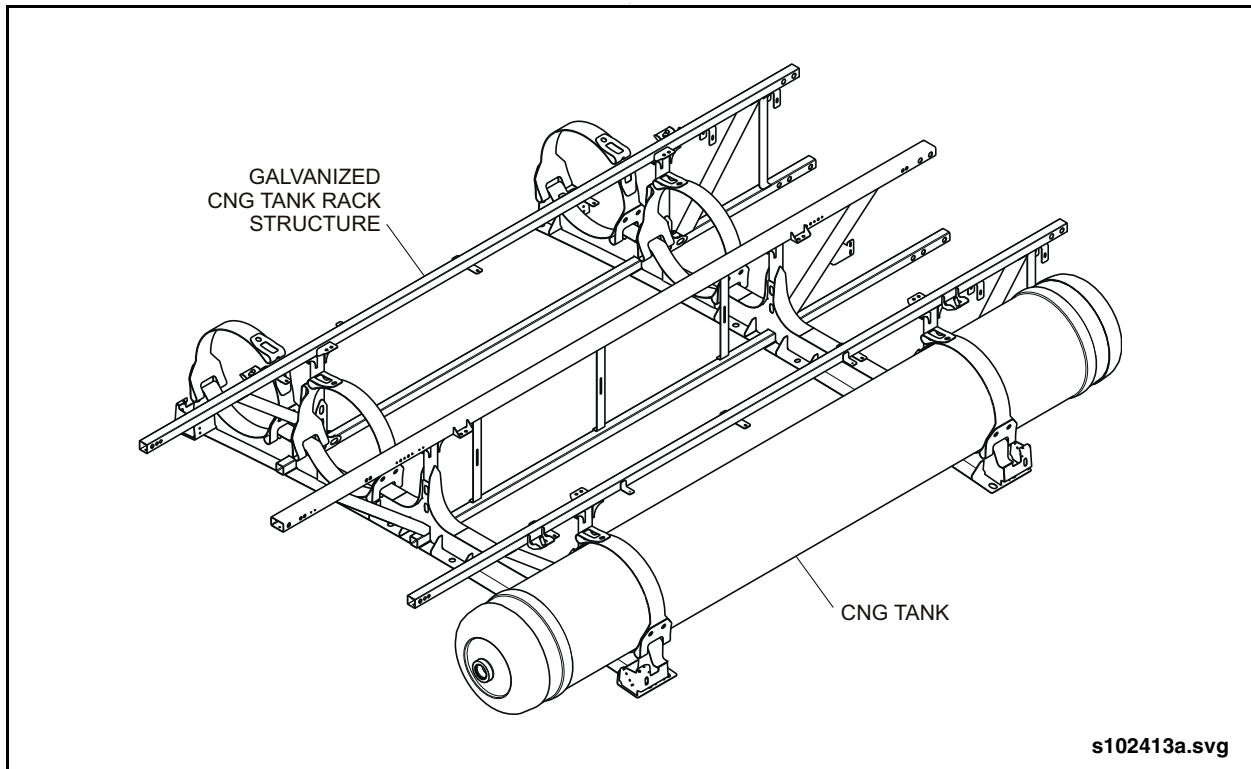

Fig. 1-2: CNG Tank Rack
- Rooftop Fuel Tank Racks. See “Fig. 1-2: CNG Tank Rack.”